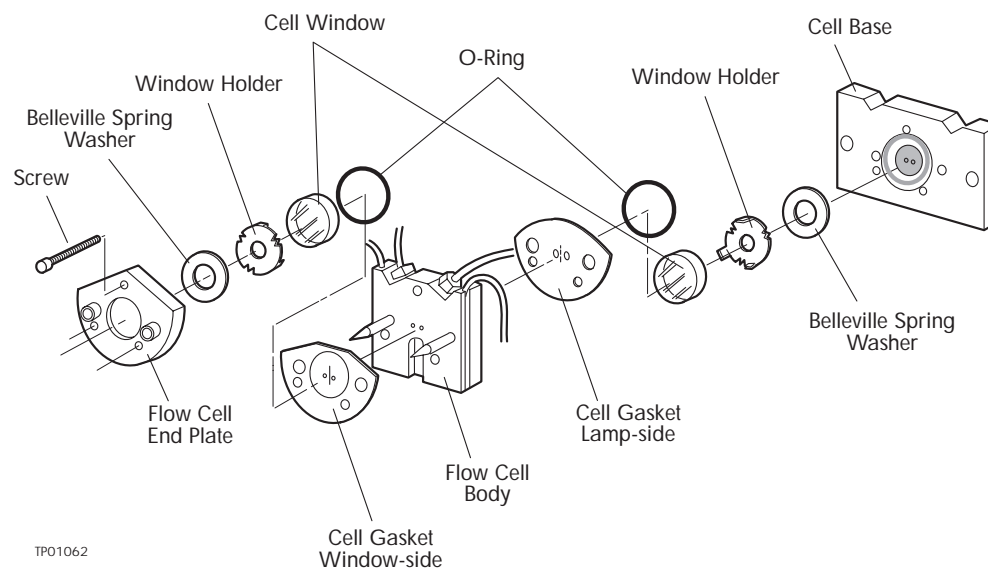

Figure 5-7 Analytical Flow Cell Components
Figure 5-7 provides an expanded view of the Analytical Flow Cell components.
2. Place the flow cell body onto the cell base (Figure 5-7).